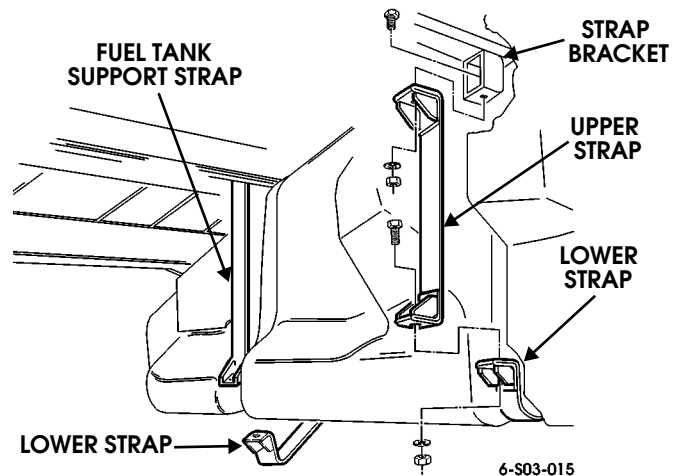

Figure 3-31: Fuel Tank Mounting Strap Attachment
12. Remove bolts and nuts attaching front and rear upper straps to lower straps (Figure 3-31).